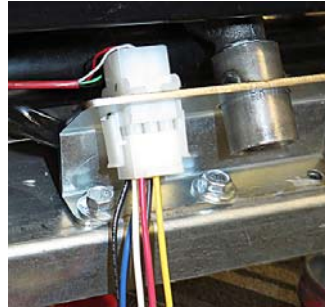

Figure 42
45. Attach the 1085398 9-pin male connector to the 9-pin female connector (see Figure 42).
55. Use the wiring diagram on the back page for reference when attaching any wiring from an external bulk system. Connect the wiring to the harness next to the DISPOSE connector, on the rear of the fryer (see Figure 42).
57. Once fryer has powered up, wait one (1) additional minute with the controller OFF and press the HOME button.